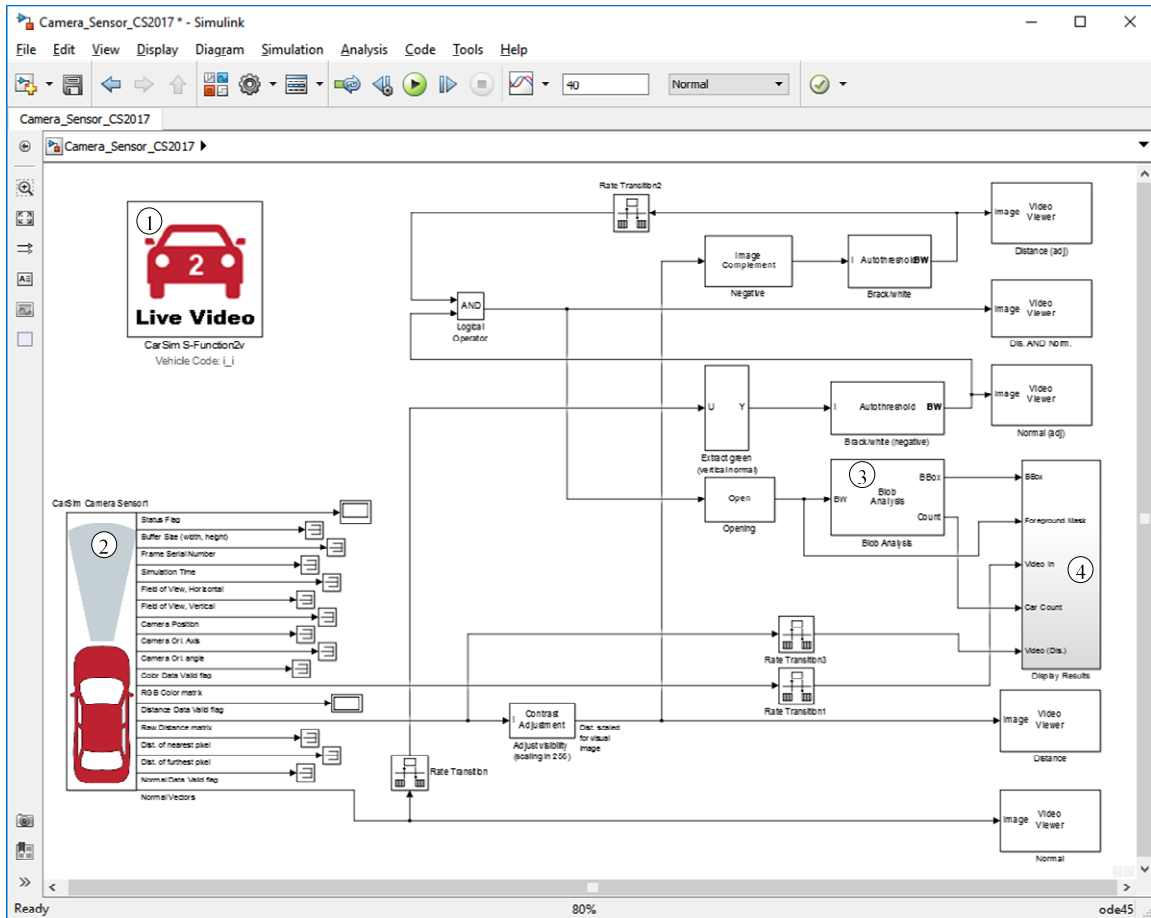
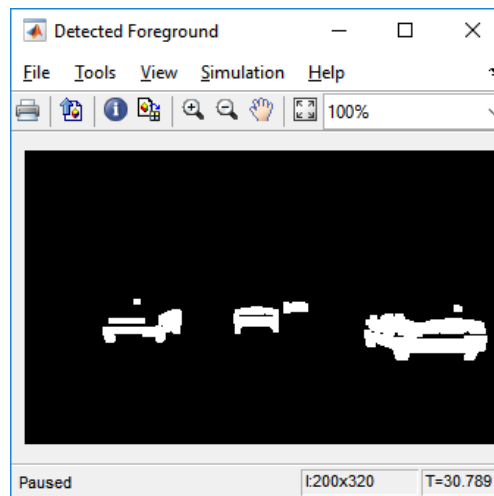

Figure 7. Example camera sensor model in Simulink (shown with CarSim).
Figure 16. Boolean image highlighting traffic vehicles.
View the Simulink model by clicking the **Send to Simulink** button (3) from the **Run Control** dataset. Because the simulation will involve live animation, the first window that appears is for VS Visualizer. Other windows appear for the Simulink model (Figure 7) and related windows. This example makes use of two S-Functions provided with CarSim, TruckSim, and BikeSim.
4. The detected car areas are further simplified with an erosion operation through the **Opening** block to get an image shown in Figure 16, which is in turn passed to the **Blob Analysis** block ⁽³⁾ in Figure 7), available as part of the *Computer Vision System Toolbox* library. The Blob Analysis is based on a much simpler Boolean image (0 or 1 in each pixel), which shows only traffic vehicles in white (numerical value of 1) and other area is black (0).